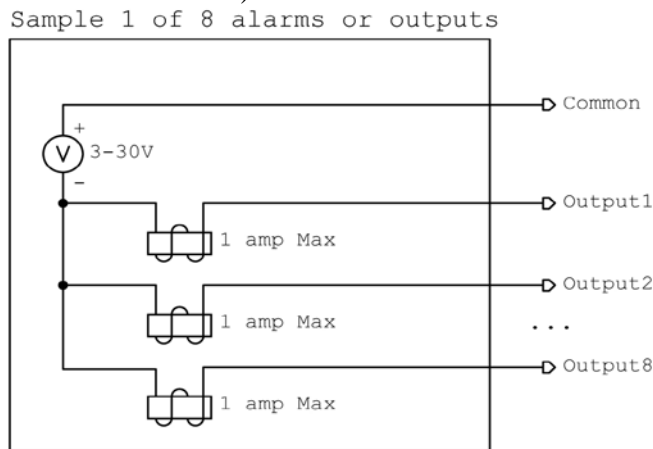

Fig. 2
- Figure 2 shows the wiring for the output circuit